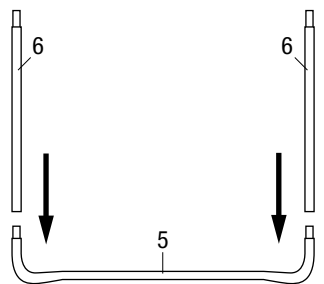

Fig. 2.1
Connect all vertical connecting pipes, or legs (6), with the foot supports (5) as shown. Make sure that the safety stickers on the foot supports are facing outwards (Fig. 2.1)